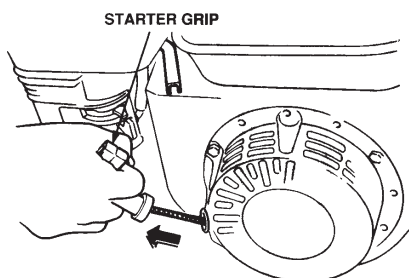

Figure 14. Starter Grip
6. Grasp the starter grip (Figure 14) and slowly pull it out. The resistance becomes the hardest at a certain position, corresponding to the compression point. Pull the starter grip briskly and smoothly for starting.